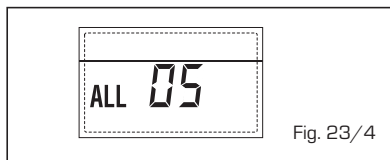

Fig. 23/4
- **BLOQUEO LLAMA "ALL 06" (fig. 23/5)**